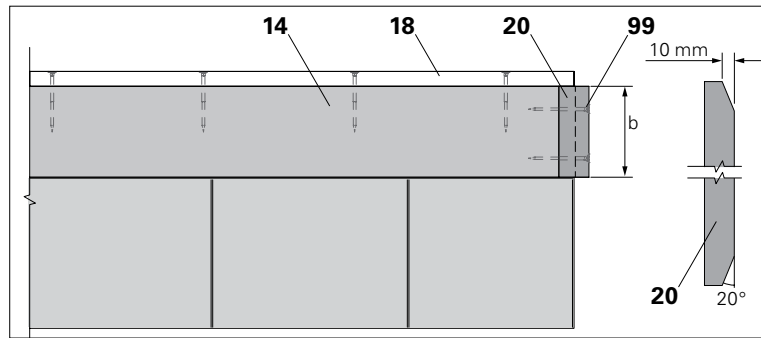

Fig. C3.08
2. Fix the protection edges (20) to the front side of the Enclosure Beam (14) with screws 6 x 60 (99). Use 2 screws per Enclosure Beam.
- (Fig. C3.08 - C3.08c)